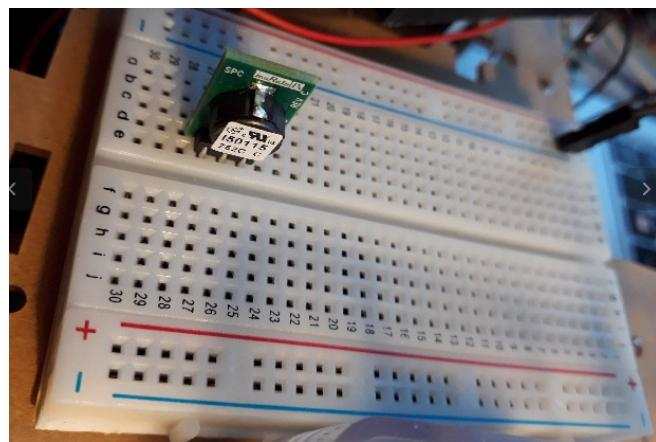
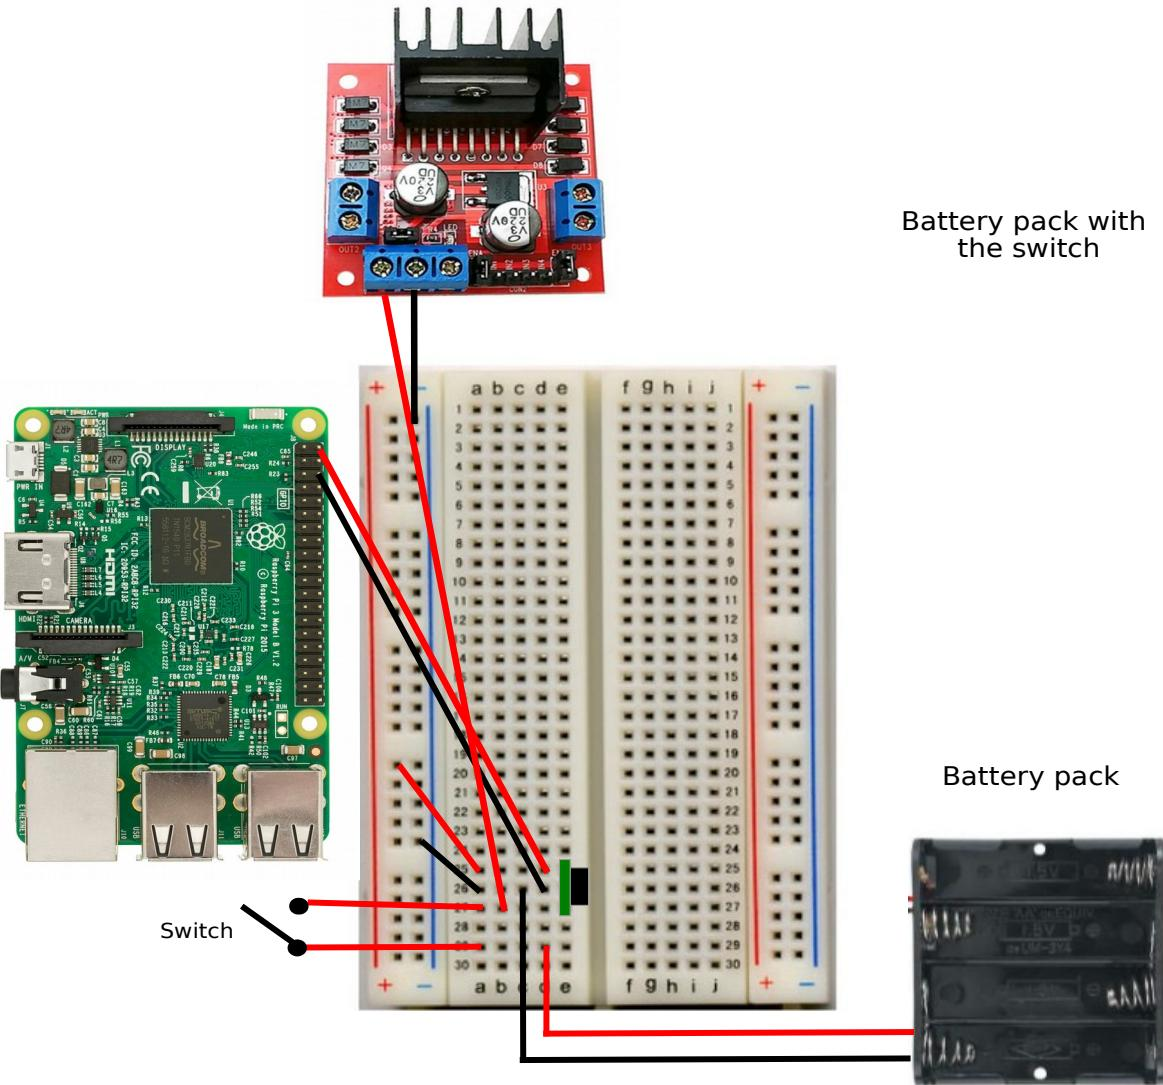
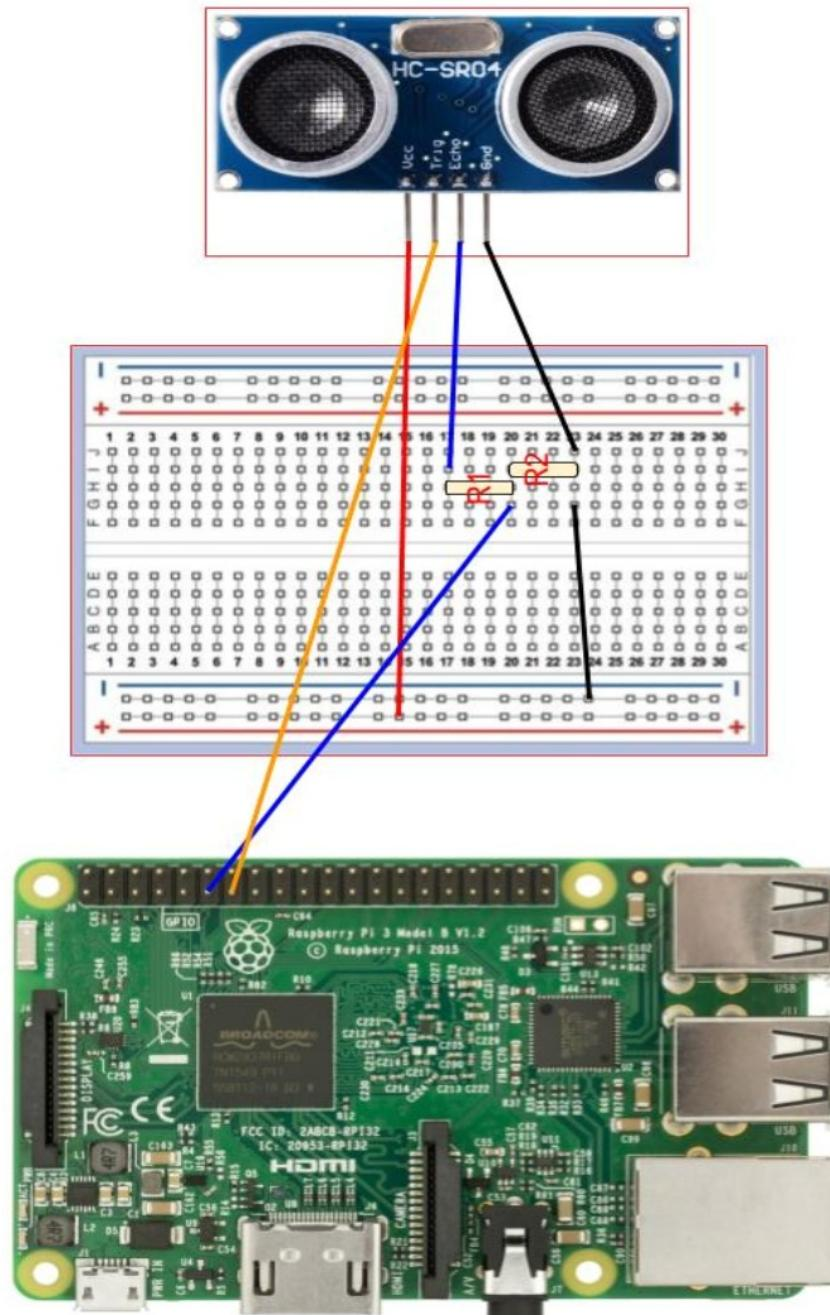

Figure 24: How to mount the voltage regulator on the board.
Figure 25: Circuit diagram for powering the raspberry pi and motors.
Figure 28: Circuit diagram for the ultrasonic sensor
Step 3: Once you have the correct components. First mount the voltage regulator on the board as shown in figure 24. Make sure it is the right way around, and in exactly the same position as shown in the figure. Then connect the wires as shown in figure 25, using the jumper cables.
Step 6: In order to correctly connect the echo sensor, you must first place two resistors, R1 and R2, with resistances of $4.7\text{ k}\Omega$ [color code yellow, purple red, gold] and $10\text{ k}\Omega$ [brown ,red, black, black, brown] respectively. The resistors are to be placed onto the breadboard in the positions shown in figure 28. You will have to trim the end of the resistor wires in order to get them to sit flush to the board, as shown in figure 25.
Step 8: Once all the wiring is complete, it should look like the image shown in figure 28. At this point, the wiring is complete and the top plate can be secured with nuts four M3 nuts.